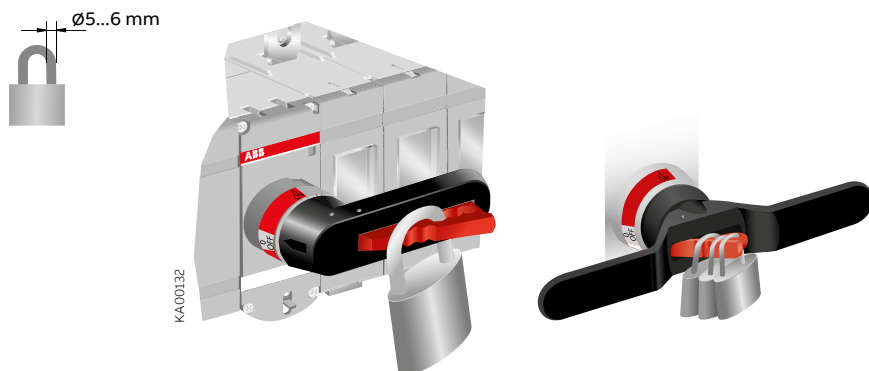

**Figure 7.20 Locking the electrical operation**
2. Place the padlock under the latch, see Figure 7.20.